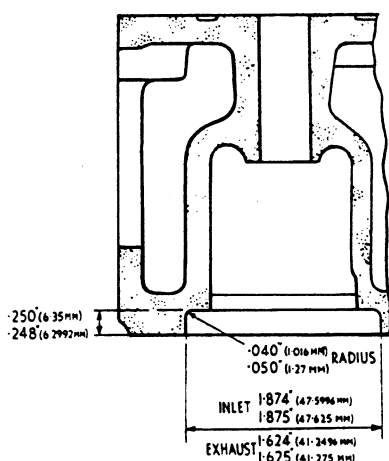
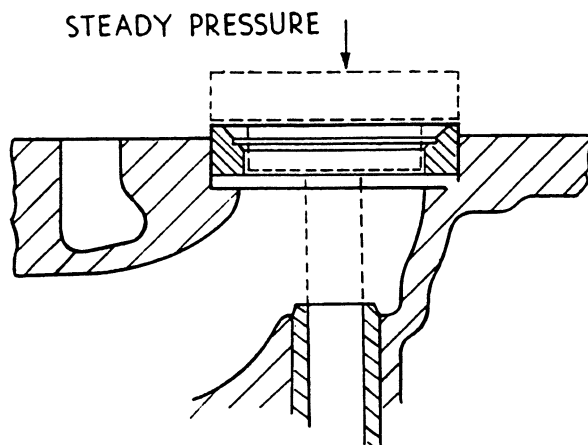

FIGURE 7A
FIGURE 7C
- (1) Withdraw valve guide and thoroughly clean valve guide bore in cylinder head.
- (2) Press new valve guide into position.
- (3) Using the new valve guide as a pilot, machine the recess in the cylinder head face to the dimensions given in Figure 7A.
- (4) Remove all swarf and thoroughly clean the insert recess, taking care to ensure that all burrs are removed.
- (5) With the insert and fitting tool assembled as shown in Figure 7C, press insert into position. Note that the insert must be pressed, and not hammered into place. Lubricant should not be employed.
- (6) Visually inspect to ensure that the insert has been pressed in squarely and that it is in hard contact with the bottom of the recess.
- (7) Cut or grind valve seat face on insert as normal procedure.